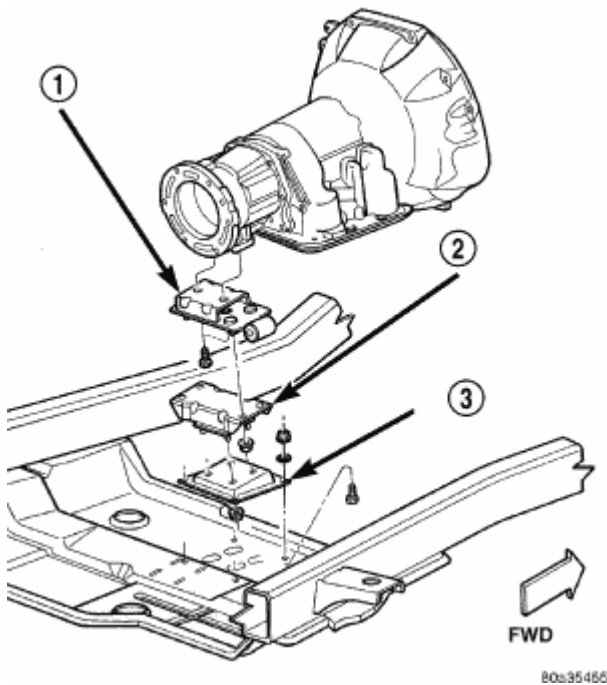

Fig. 169: Rear Mount (Automatic Transmission)
7. Position the support cushion (2) to the transmission mount bracket and install nuts. Tighten the nuts to 41 N.m (30 ft. lbs.) torque. See **Fig. 169**.